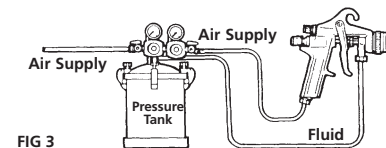

FIG 3
**PRESSURE TANK WITH 2 REGULATORS (Figure 3)**